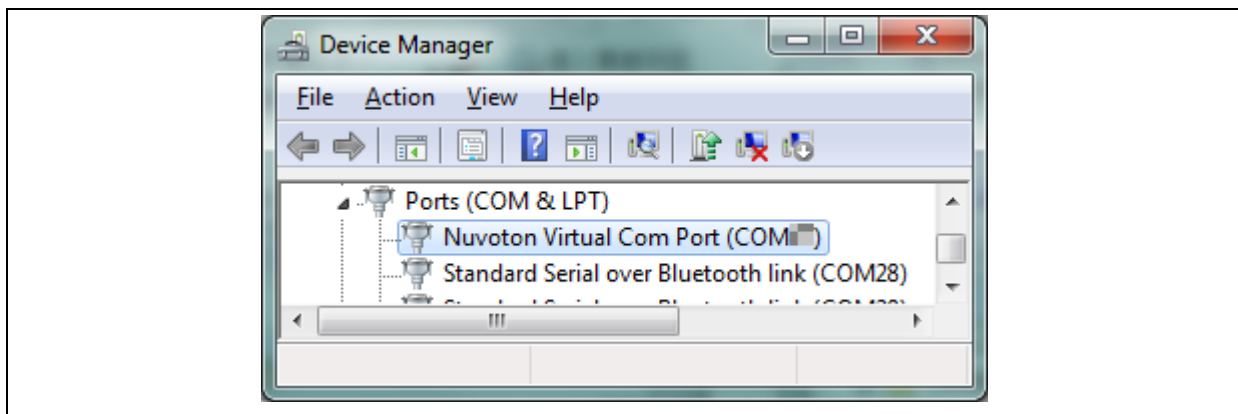

Figure 3-13 Device Manger
3. Find the “Nuvoton Virtual COM Port” on the Device Manager as Figure 3-13.